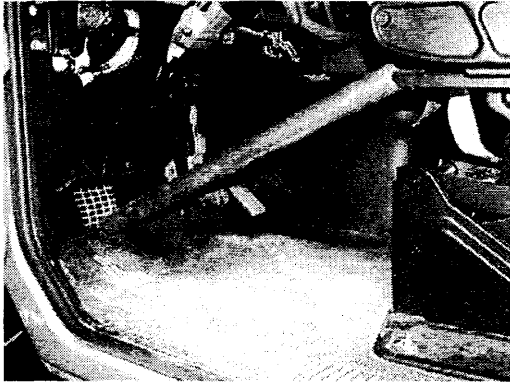

Figure 1 – Clutch Hold Down
1. Remove the Fender Extensions. Mid-High mounted cabs (4400, 7300, 7400, 7500, 8500) will have three (3) fasteners attaching each fender extension while High mounted cabs (7600, 7700, 8600) will have four (4) fasteners for each fender extension.
3. Repeat step 2 until all sixteen (16) cab mounting bolts are replaced and properly torqued.
- a. To access the bolts on the driver's side cab mount bolts, you will also need to fully depress the clutch and use a deep well socket or socket extension. See figures 1 and 2.